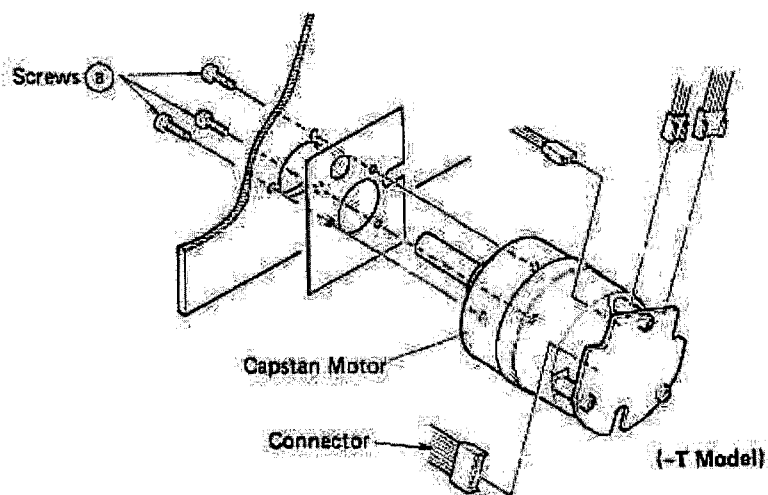

Fig. 9-3-6. Capstan Motor Ass'y Removal
2. Remove the three screws (a) that are holding the motor section onto the capstan motor assembly as shown in Fig. 9-3-6. Next, unplug the connector to completely remove the capstan motor assembly.